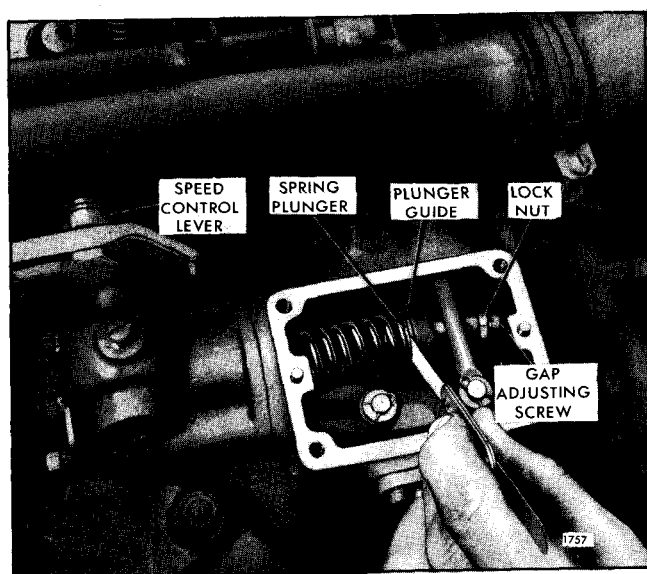

Fig. 1 - Adjusting Governor Gap
4. Place the speed control lever in the *maximum* speed position (Fig. 1).
plunger and the plunger guide (Fig. 1). If required, loosen the locknut and turn the adjusting screw in or out until a slight drag is noted on the feeler gage.